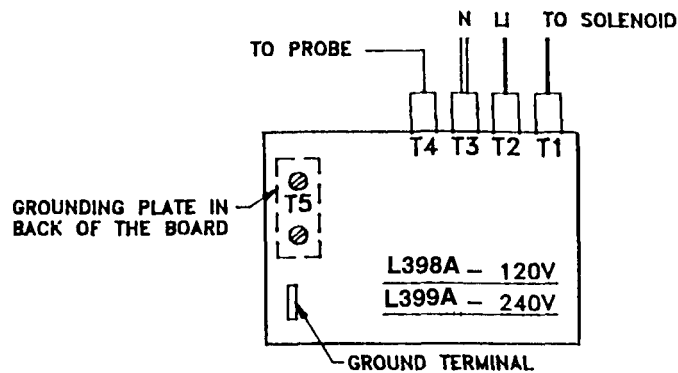

Figure 6
- A) Make sure there is power input to the board at the terminals 2 & 3, see Figure 6. Your voltmeter should read 115 volts. It should read the same at terminals 1 & 3. This is the output power to electrify the coil of the solenoid valve to open it. The lack of voltage at terminals 2 & 4 will indicate that the water level board is not working properly.